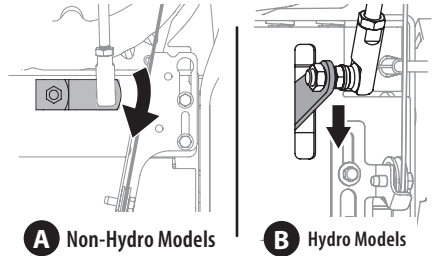

Figure 33
9. Make sure the shift lever on the back of the transmission is rotated downward to the full extent of its rotation see Figure 33, Detail "A" for models without hydro transmission or Detail "B" for models with hydro transmission.